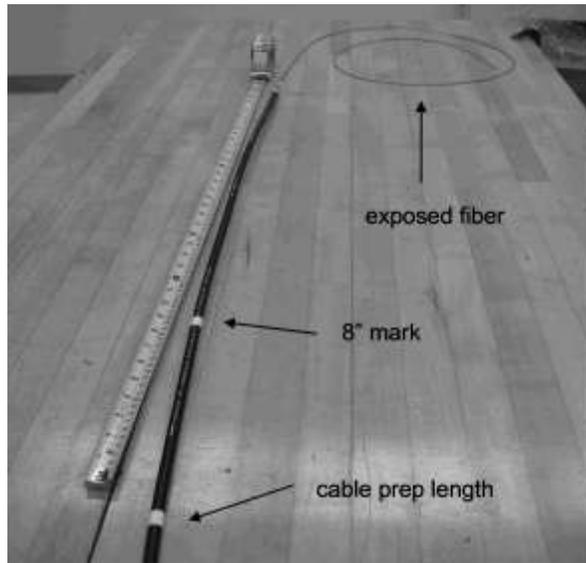

Figure 13 – Remove the outer jacket, armor, and buffer tube to expose the fibers.
5.4 Follow steps 4.3 thru 4.9 from the previous section to expose the required length of optical fibers. This fiber length will be stored in the splice tray of the closure (Figure 13).